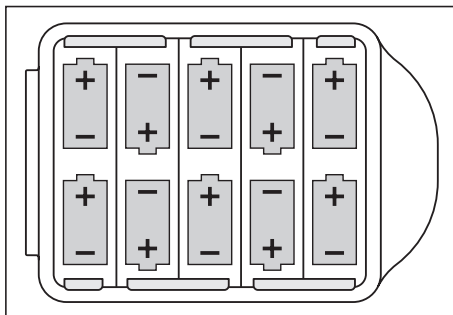

Fig. 20: Replacing the generator batteries – polarity of the batteries
3. Insert the new batteries. Ensure that the polarity is correct (fig. 20).